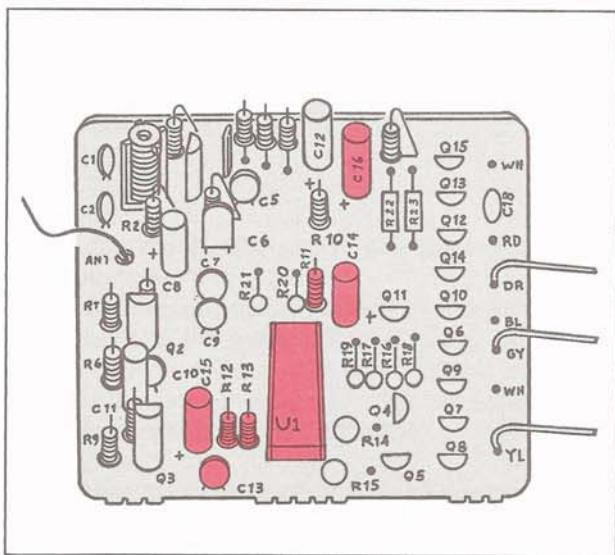

FIG. 76
Refer to Fig. 76 and assemble this stage as follows.
4. This concludes the construction of this stage. Confirm that all components and leads have been inserted properly, using Fig. 76 as a reference.